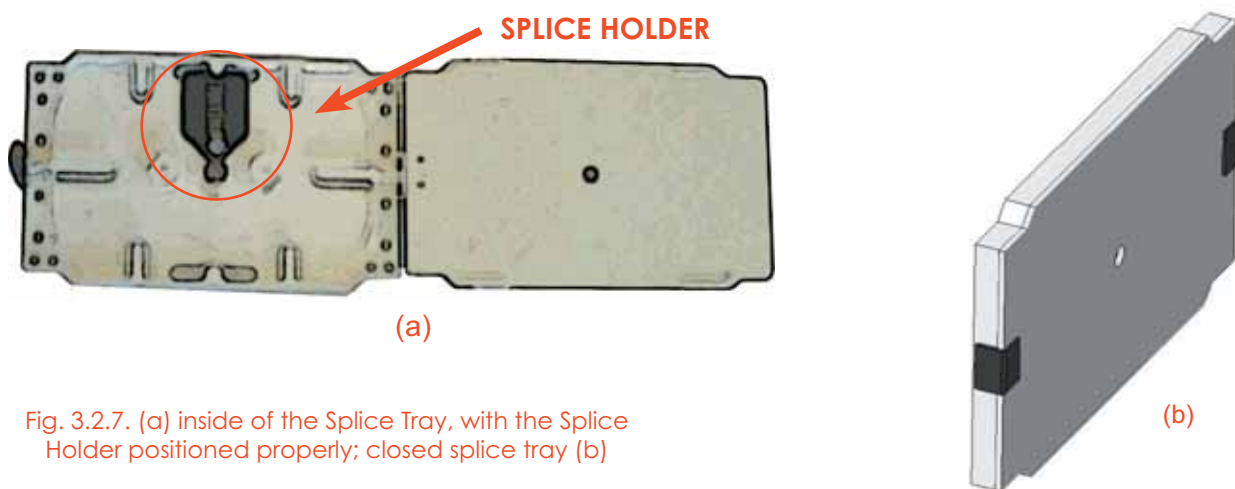

Fig. 3.2.7. (a) inside of the Splice Tray, with the Splice Holder positioned properly; closed splice tray (b)
- In order to assure proper heat dissipation, external power supplies must be mounted in a vertical position with the power socket downwards (see Fig. 3.2.7 a,b).
5. Fix the splice holder inside the splice tray (not included) See Fig. 3.2.7 a,b.